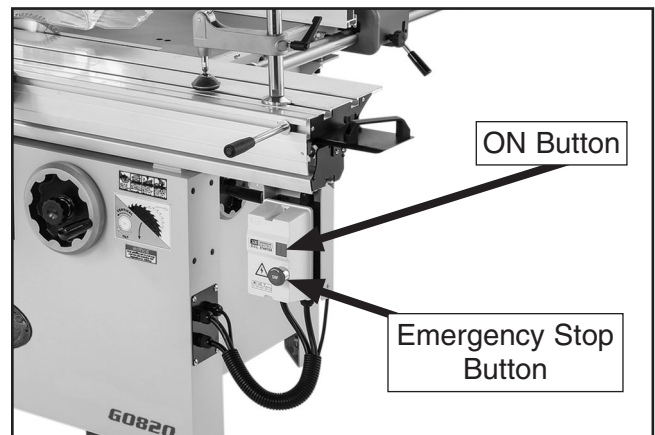

Figure 61. Emergency Stop switch button.
4. Twist Emergency Stop button clockwise until it pops out (see **Figure 61**). This resets switch so machine can start.
5. Press ON button (see **Figure 61**) to turn machine **ON**. Verify motor starts up and runs smoothly without any unusual problems or noises.